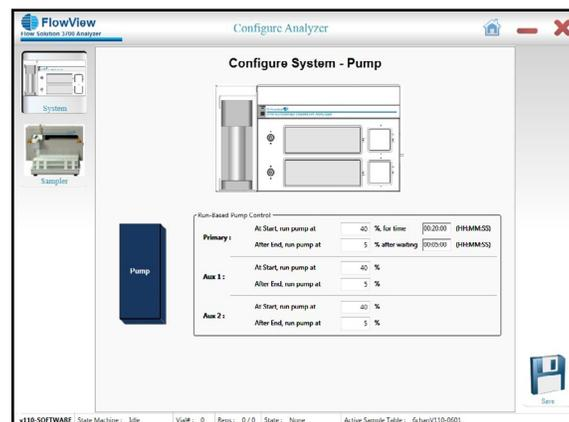

Figure 5.6. FlowView - Configure Pump Screen
- Pump Speed (percentage) Before and During Analysis 0.0% - 100.0%, and amount of time before automatically starting the run (Figure 5.6).